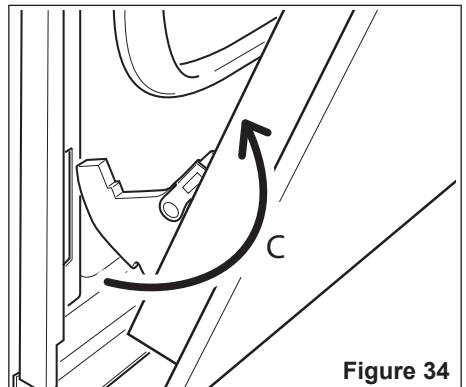

Figure 34
- Withdraw the hinge hooks from their location following arrow "C" (fig. 34).